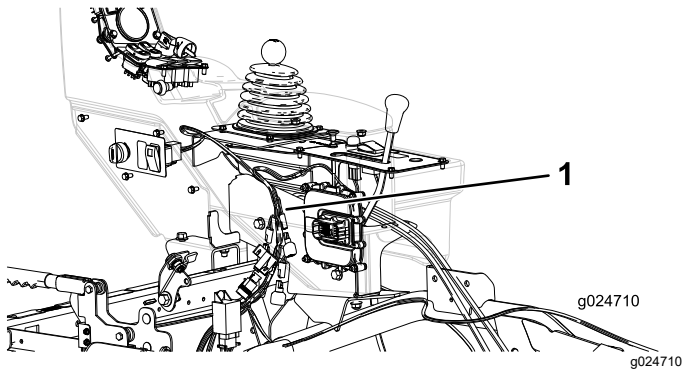

Figure 6
2. Route the wire harness to the side console (Figure 6).